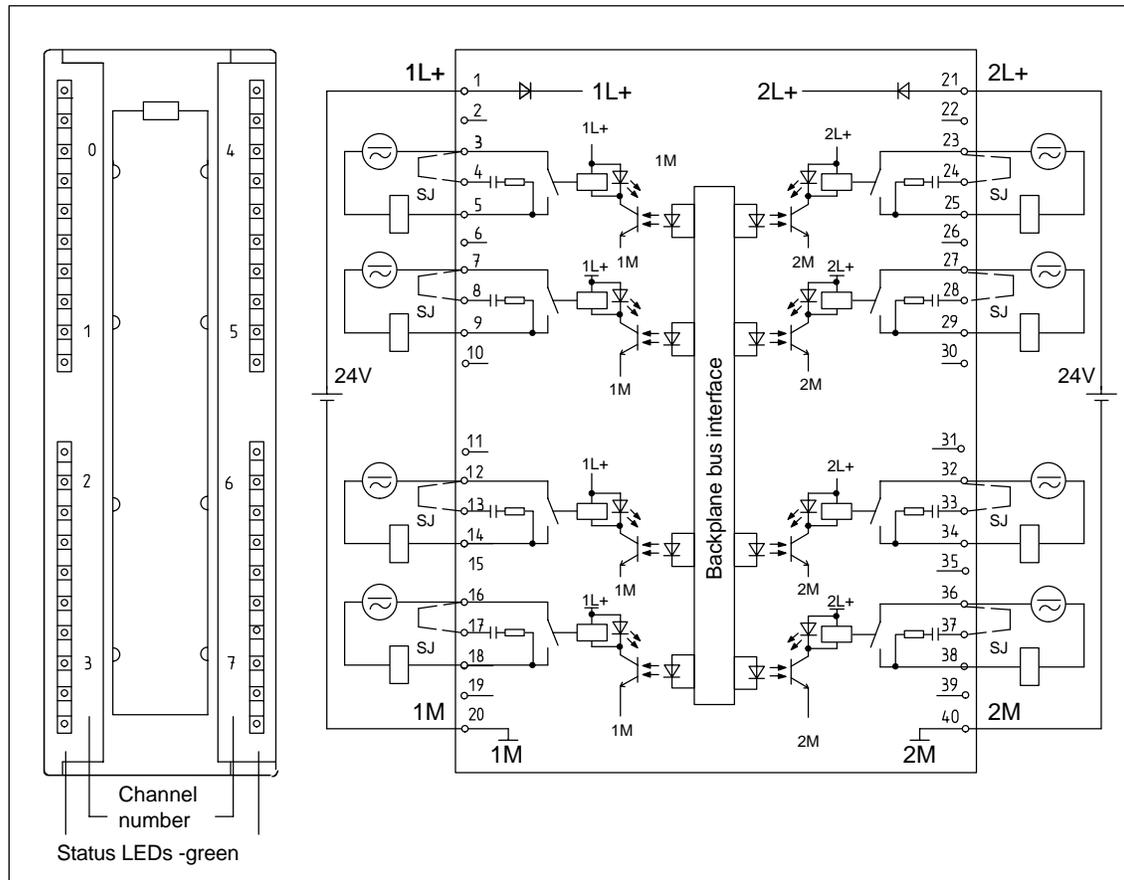

Figure 3-26 Module View and Block Diagram of the SM 322; DO 8 × Rel. 230 VAC/5 A
You protect the contacts against overvoltages by inserting jumpers (SJ) on the module between terminals 3 and 4, 7 and 8, 12 and 13 etc. (refer to Figure 3-26).